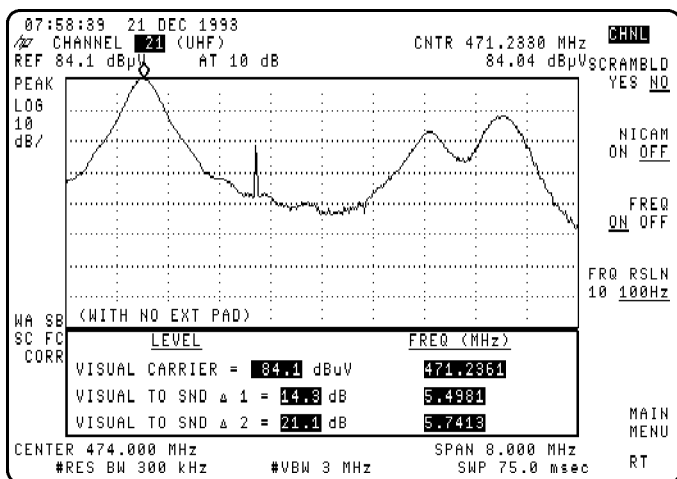

Figure 2-8. Carrier Level and Frequency
4. Press **FREQ ON OFF** (ON). The frequency of the vision carrier and the offset to the sound carrier(s) are now displayed. (See Figure 2-8.) The Frequency of the NICAM carrier is *not* measured.